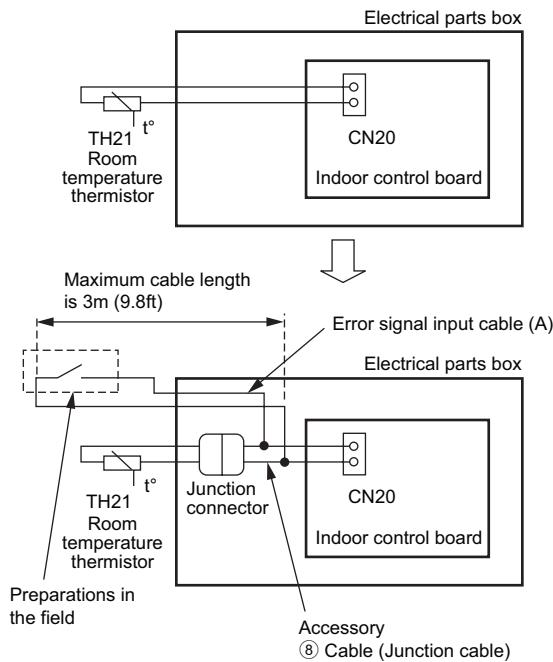

Fig. 5-6
① Error signal input method (Fig. 5-6)
- Remove the room temperature thermistor TH21 from the indoor control board, and connect the cable ⑧ (junction cable) supplied with the product.
- Connect an error signal (non-voltage a contact input) to the error signal input cable (A).
② Significance of error signal